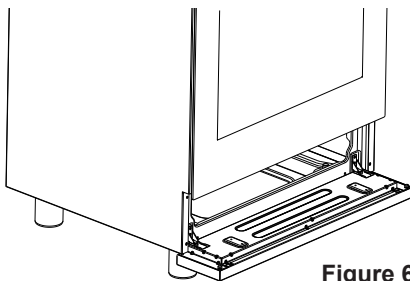

Figure 6
- Open the pivoting panel (fig. 6).